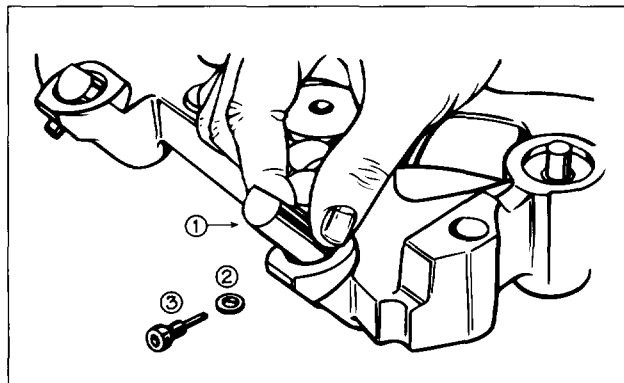

FIG. 7
1. Remove the anti-rotation pin assembly (3, Fig. 7) and lock washer (2) from the housing and discard.
2. Remove the master piston assembly (1).